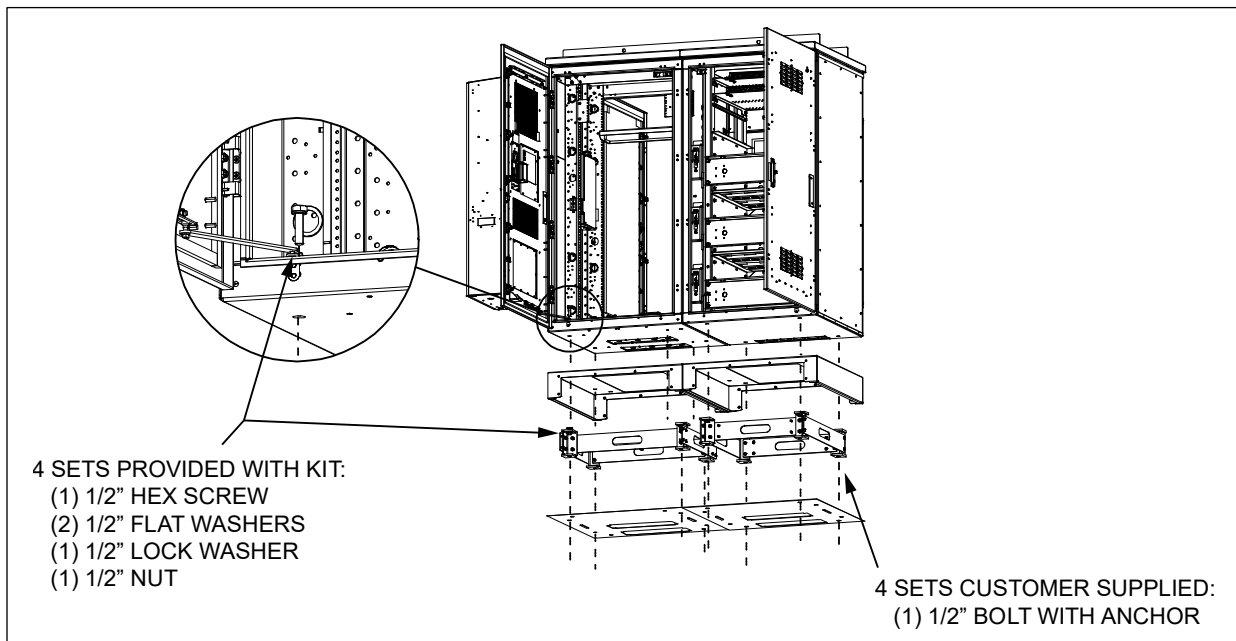

Figure 6
8. Lower the MC onto the plinth, ensuring that the mounting holes on the MC are aligned with the holes on top of the plinth (Figure 6).